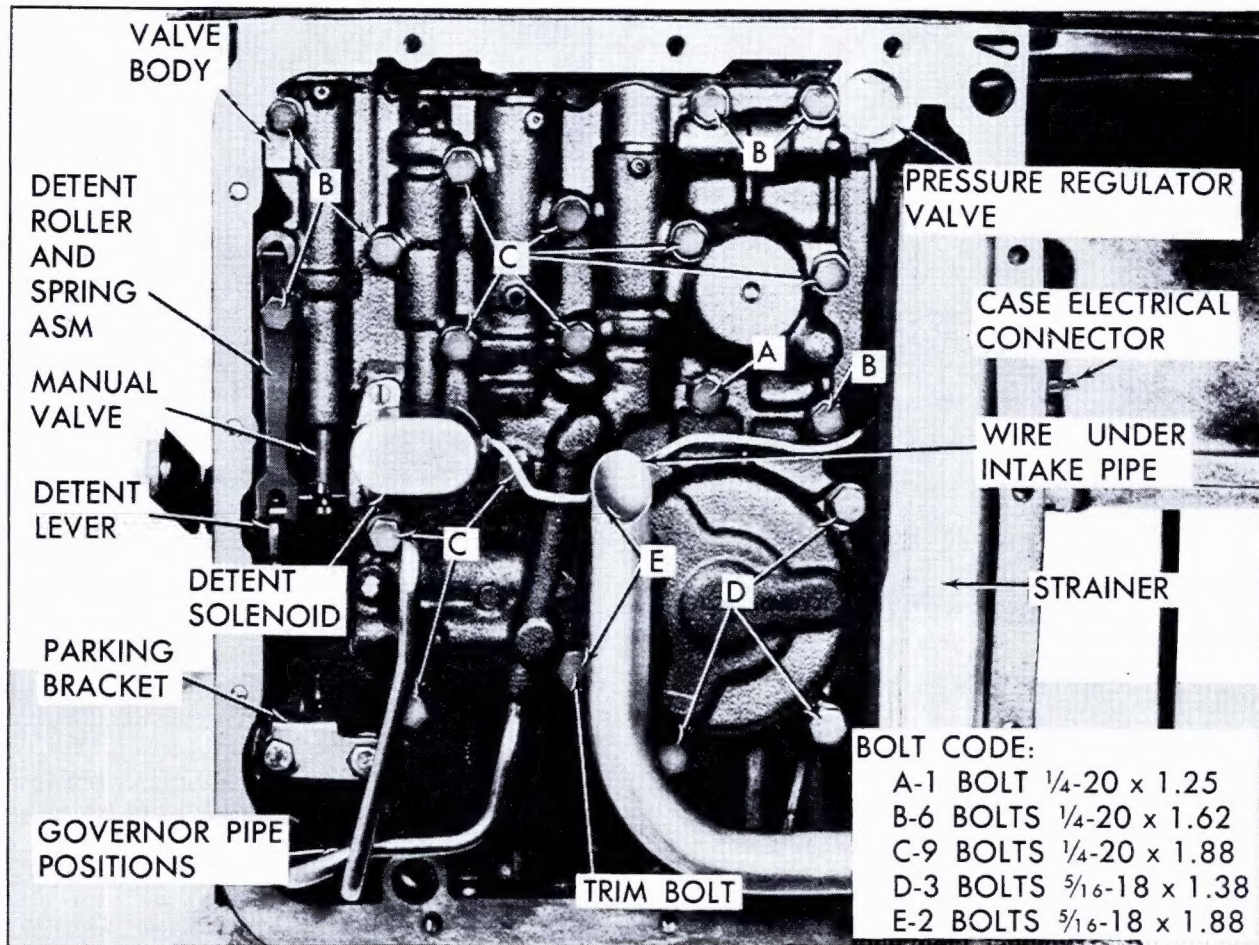

Fig. 7-223 Control Valve Bolt Chart
b. Remove guide pins and install control valve assembly attaching screws, eliminating detent roller and spring assembly attaching screw. Torque bolts to 8 foot-pounds, Fig. 7-223.